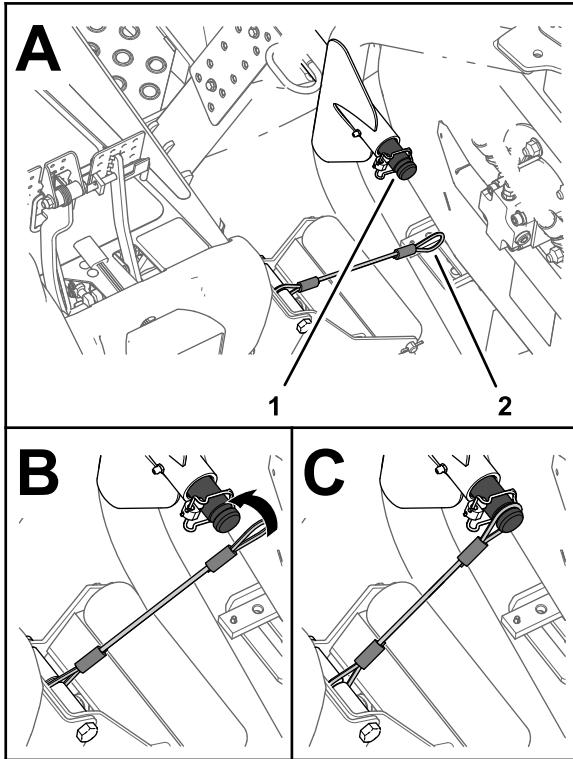

Figure 30
5. Align the lanyard to the carrier shaft of the lift arm for the forward outer-cutting unit (Figure 30).
6. Slip the loop in the lanyard over the carrier shaft until the lanyard is fully seated in the groove in the shaft (Figure 30).